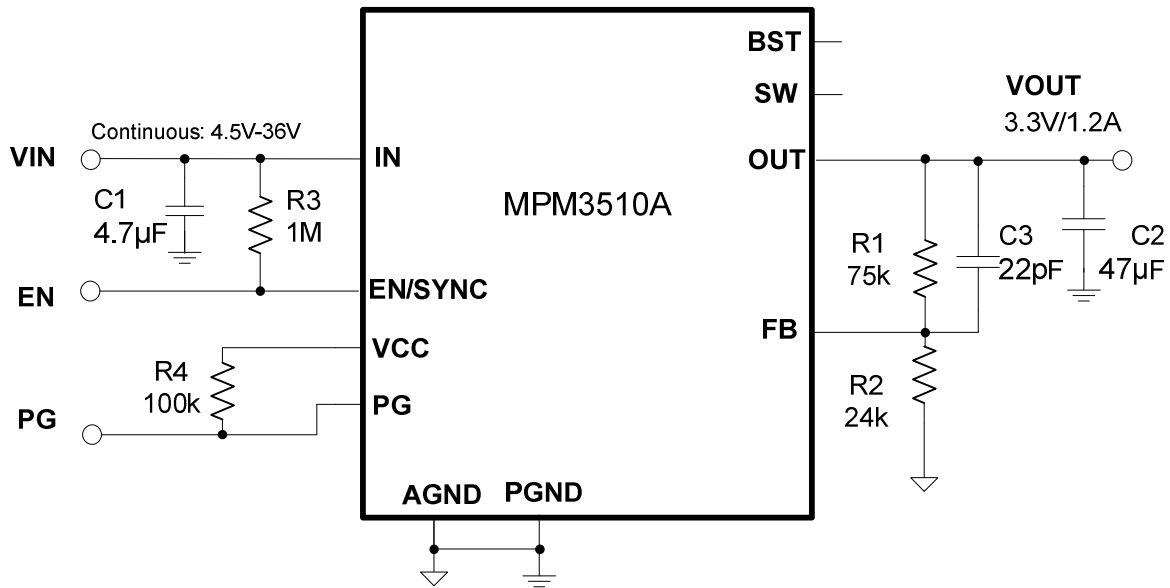

Figure 8:  $V_{OUT} = 3.3V$ ,  $I_{OUT} = 1.2A$
- 8) The recommended layout is based on Figure 8 and the "Typical Application Circuits" on page 18.
The detailed application schematic is shown in Figure 8. The typical performance and circuit waveforms have been shown in the “Typical Performance Characteristics” section. For additional device applications, please refer to the related evaluation board datasheets.